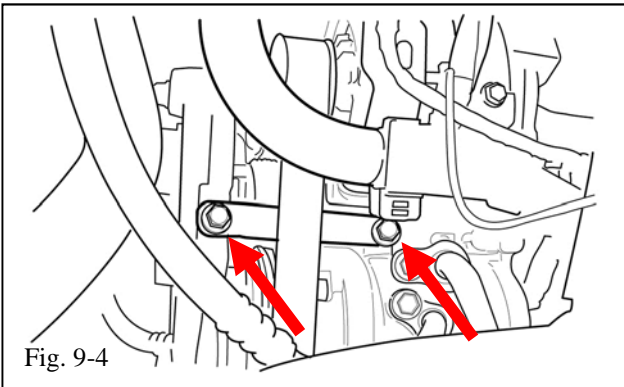

Fig. 9-4
- (c) Use the bolt removed in Step 9(b) to attach one end of the tensioner support bracket (C5) to the AC compressor finger tight (Fig. 9-4).
- (e) Attach the other end of the strut bracket to the belt tensioner bracket using an M8 x 16 bolt (C8) (Fig. 9-4).